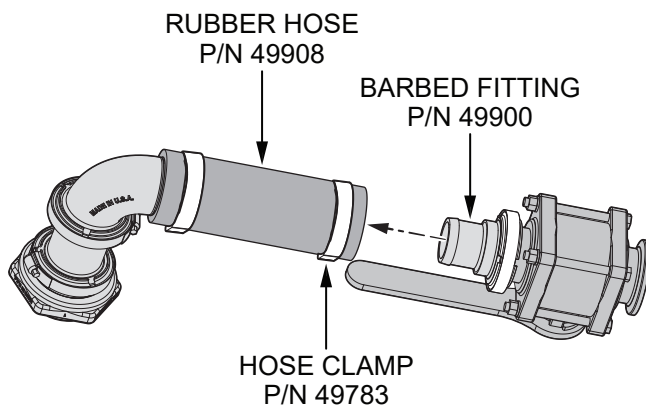

Figure 7. Install Rubber Hose Onto Valve Assembly
3. Place a new **hose clamp (P/N 49783)** onto the open end of the new **rubber hose (P/N 49908)**. See Figure 7.
4. Slide the **barbed fitting (P/N 49900)** on the pre-assembled portion of the valve assembly into the open end of the **rubber hose (P/N 49908)**. **DO NOT** tighten the hose clamp at this time. See Figure 7.